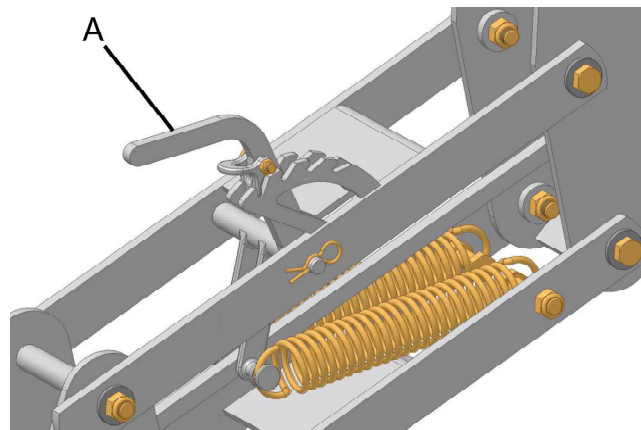

fig. 20
For getting of bigger amplitude (height oscillation) of seed double discs, move the lever (A) (fig. 20) forward or backward. These settings depend on the unevennesses of soil and the planted area.